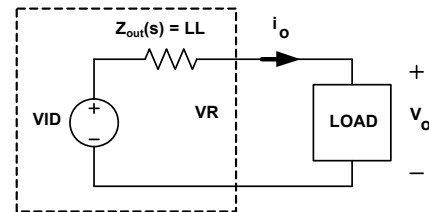

FIGURE 24. VOLTAGE REGULATOR EQUIVALENT CIRCUIT
Figure 18 shows the desired load transient response waveforms. Figure 24 shows the equivalent circuit of a voltage regulator (VR) with the droop function. A VR is equivalent to a voltage source ( $= V_{\text{ID}}$ ) and output impedance  $Z_{\text{out}}(s)$ . If  $Z_{\text{out}}(s)$  is equal to the load line slope  $LL$ , i.e., constant output impedance, in the entire frequency range,  $V_o$  will have square response when  $I_o$  has a square change.